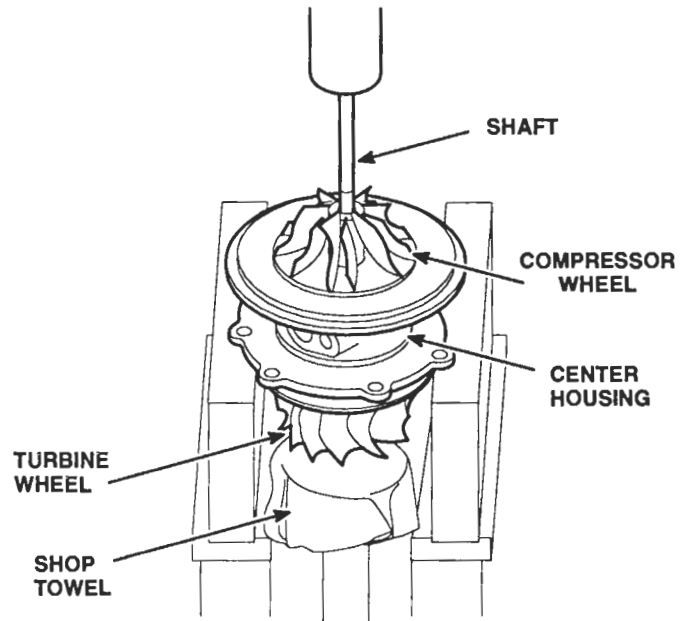

Figure 19. Removing Compressor Wheel Shaft
- d. After heating the compressor wheel, remove the center housing and rotating assembly and support it on the bed of an arbor press with the compressor wheel end up (Figure 19.)